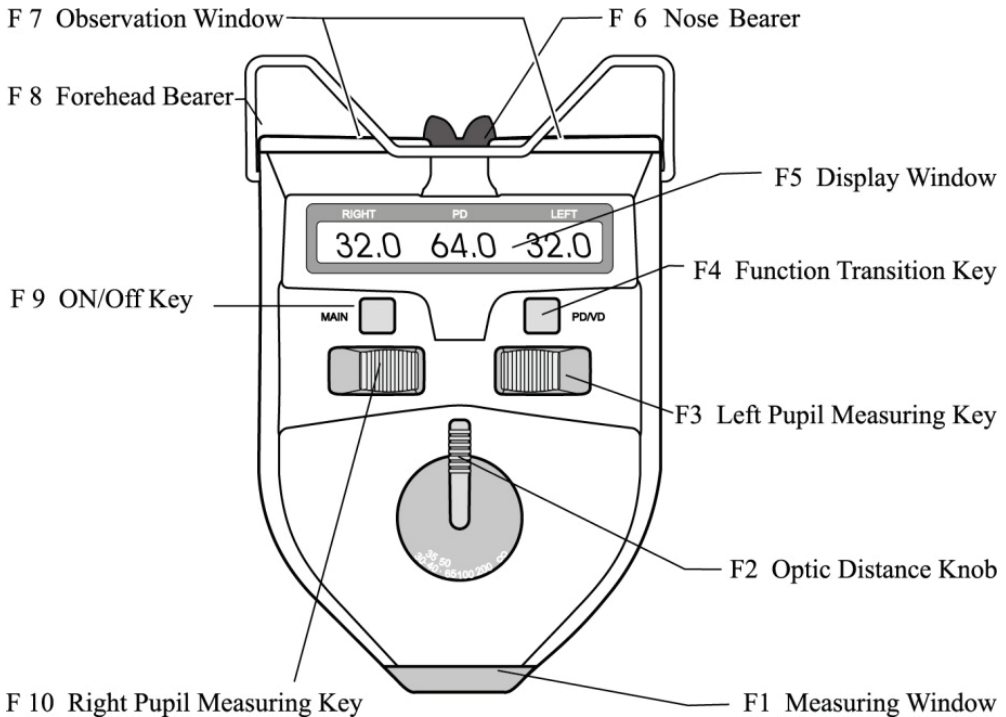

Fig.1
e. In order to measure the pupillary distance at different optic distances, please turn the Optic Distance Knob (as shown in Fig.1 NO.2) to your optic distances first and then make your measurement. This device sets some different optic distance locations such as 30cm, 35cm, 40cm, 50cm, 65cm, 1m, 2m and  $\infty$ .